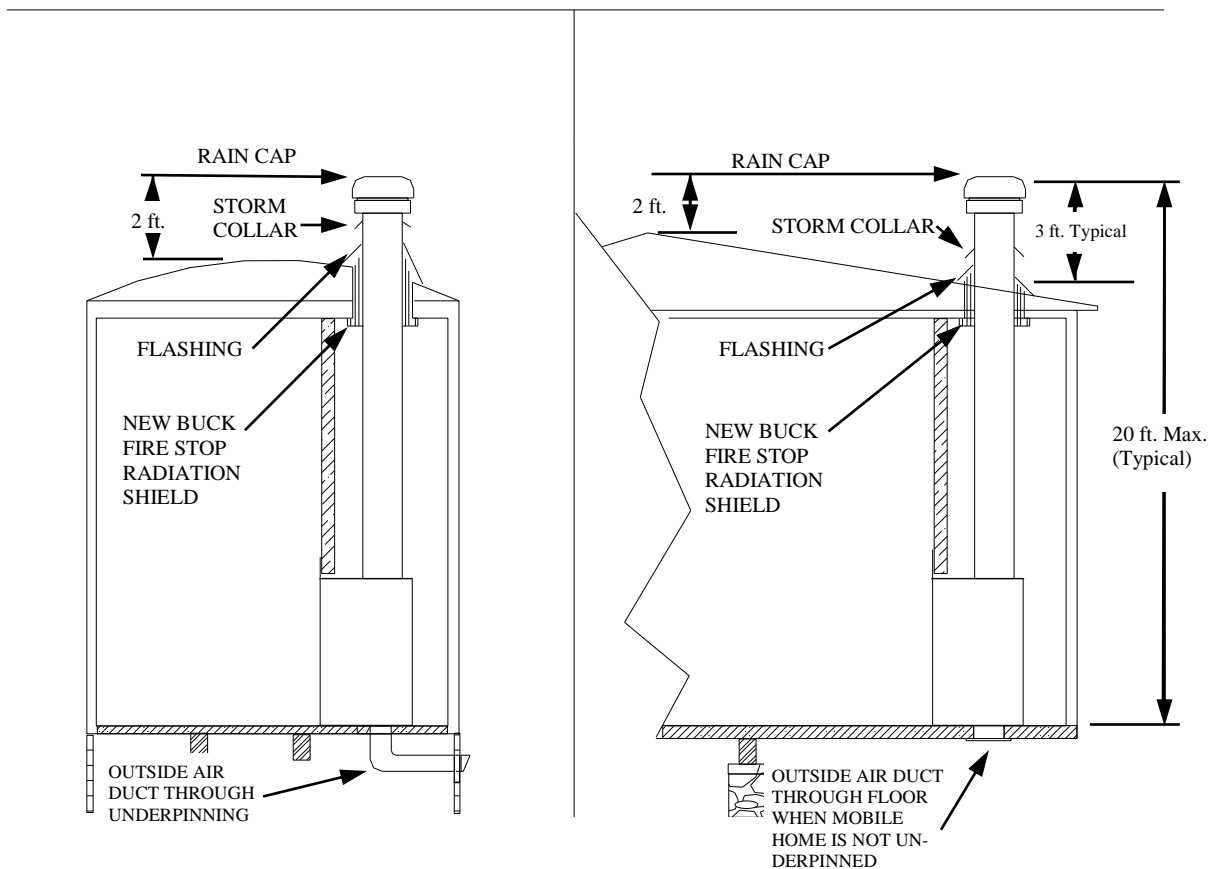

FIGURE 9
Where cabinet is to be placed, a 4 1/4" diameter hole with a 2 1/8" radius from center line must be cut through floor. Outside air duct kit #PP 70075-01 is to be installed. (See Figure 9).
3. Layout for hearth extension preparation and removal of carpet and padding. Where cabinet is to be placed, a 4 1/4" diameter hole with a 2 1/8" radius from center line must be cut through floor. Outside air duct kit # PP 70075-01 is to be installed. (See Figure 9).